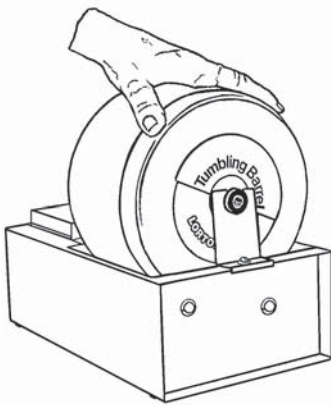

fig. 1
- I. Place the barrel on the tumbler and align. Align the slot in the guide with the groove in the knurled nut on the barrel. (figure 1.)